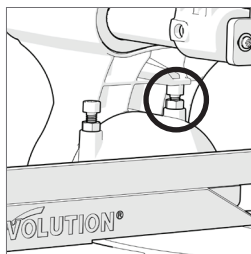

Fig. 14
- Loosen the locknut on the Bevel Angle Adjustment Screw. **(Fig. 14)**